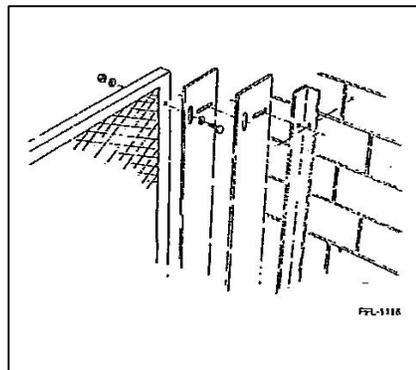

Figure 6
- 7. Wall attachment kits are provided when a gate or panel meets an existing wall. **See Figure 6.**